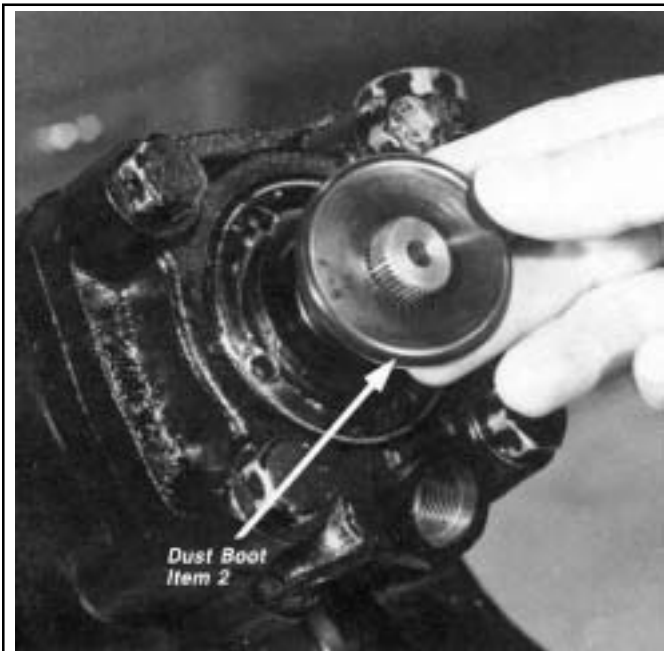

FIGURE 13 - REMOVING/INSTALLING INPUT SHAFT DUST BOOT
1. Remove the external dust boot (2) from the spindle assembly's input shaft spline. *Figure 13*